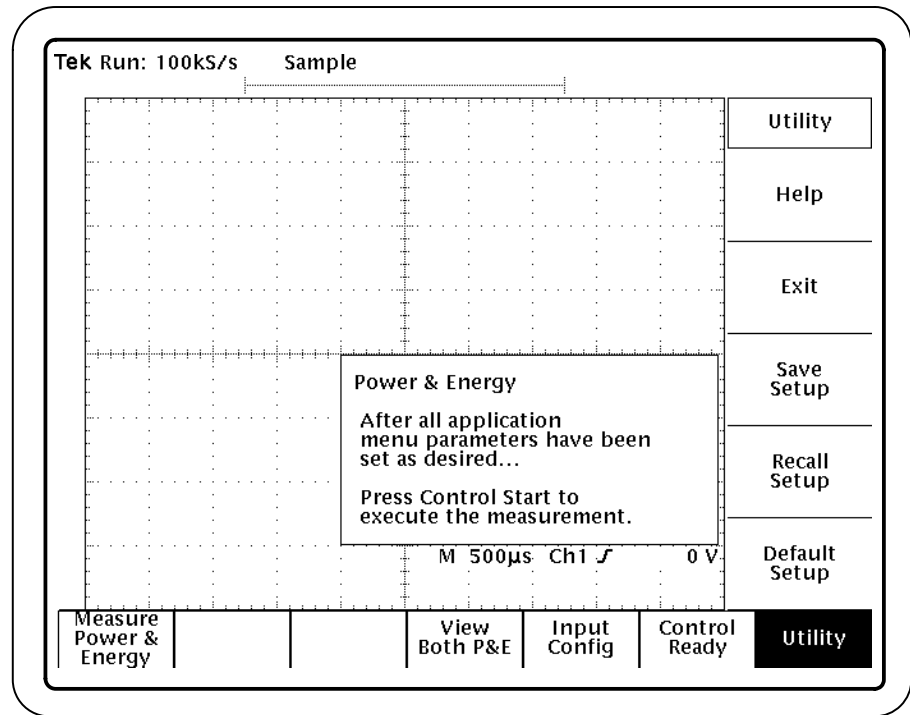

Figure 6: Utility menu
1. Press Utility (main) → Help (side). Figure 6 shows the Utility menu.